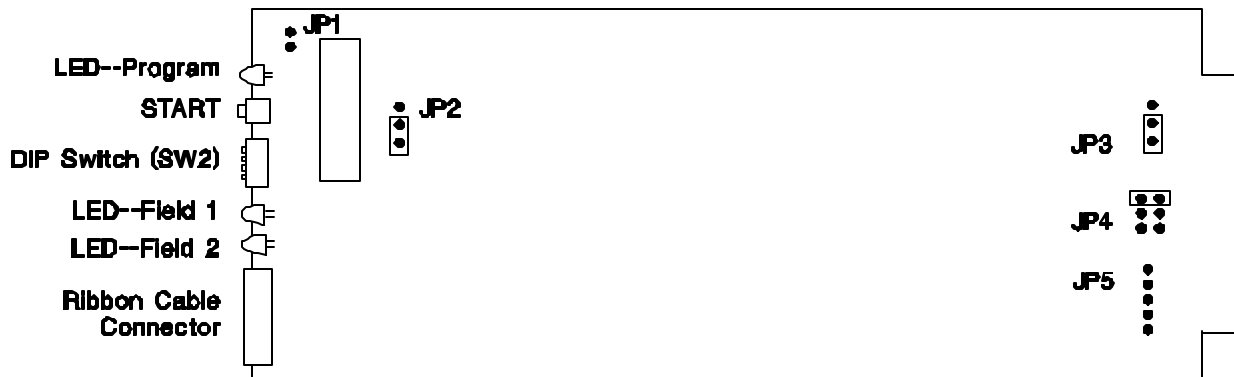

Figure 9-2. Still Card Jumpers
1. Connect the 20-pin ribbon cable from the Still Card (see Figure 9-2) to the TBC/Sync board (Model 10/2).
10. Open the front panel of the Multi-II chassis (see Section 2.4). Locate the Still Card and its Start button (see Figure 9-2). Press and hold down the Start button until the LED (above the Start button) lights. Release the button. The Program LED should remain lit until the program cycle is complete (approximately 5 seconds). If the Program LED flashes, an error has occurred; either the ribbon cable is not connected properly, or the write protect DIP switches are set to ON. If programming is successful, the field 1 and/or 2 LEDs (below the DIP switches) will flash as they are being programmed.
Figure 9-2 shows Still Card jumper settings for use in the Multi-II unit.